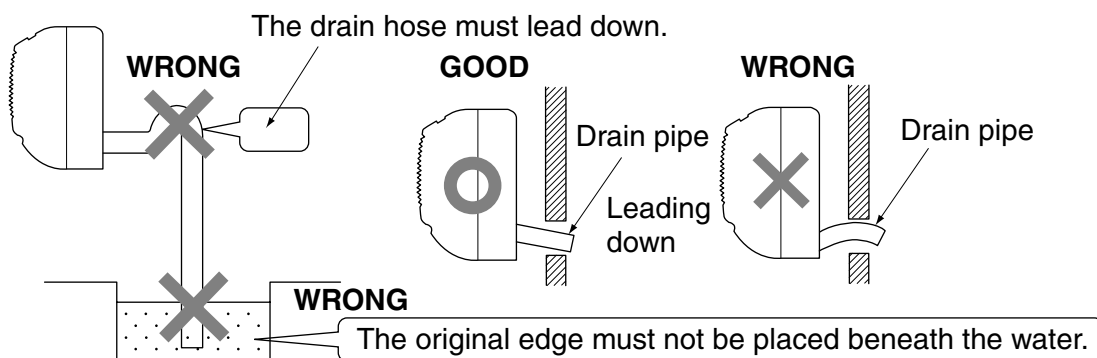

Fig. 15
- Use particular caution when carrying out the steps in the Fig. 15.